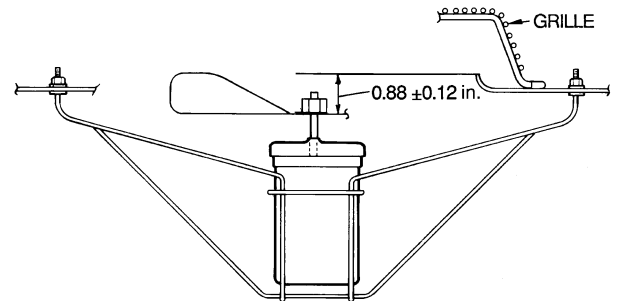

Fig. 39 — Condenser-Fan Adjustment
4. Adjust fan height on shaft using a straightedge placed across venturi and measure per Fig. 39.